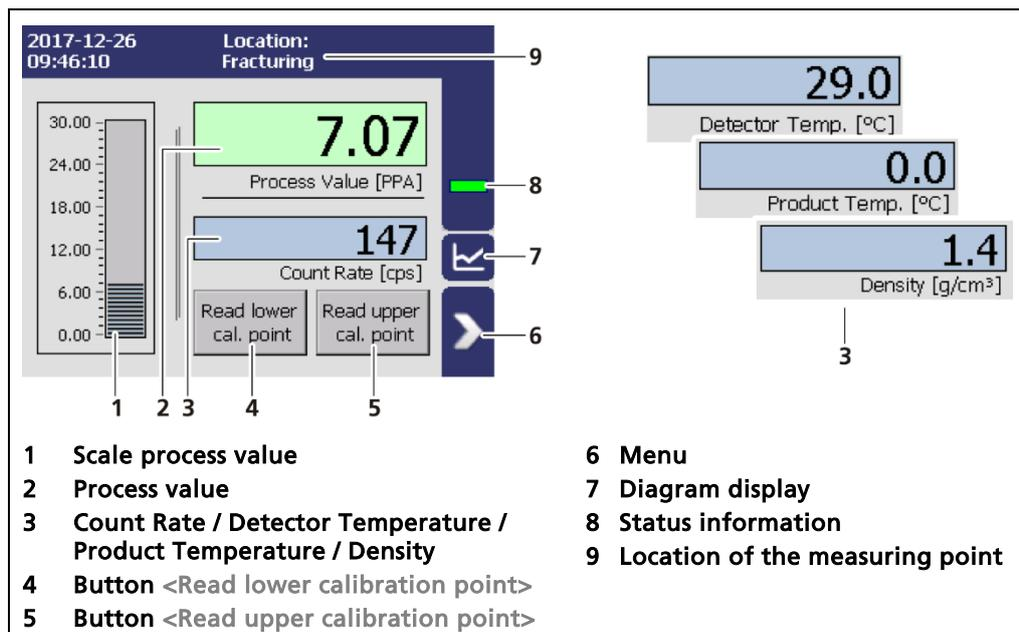
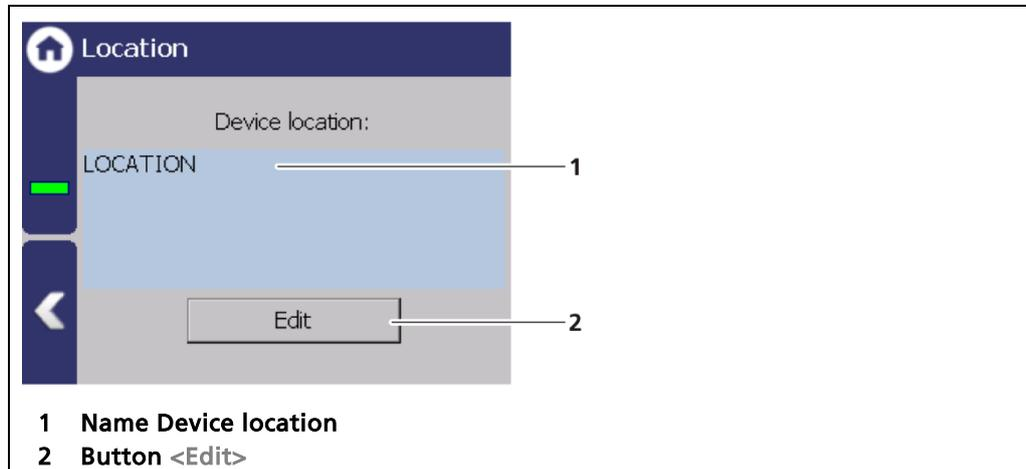

Fig. 25 Standard display of the EVU
Fig. 40 Device location
Clicking the blue box changes the display between Count Rate / Detector Temperature / Product Temperature / Density (Fig. 25, item 3). The units can be changed in Chapter 9.3.1. The Name of the measuring point (Fig. 25, item 9) can be changed in Expert Setup | Identification | Location.
Clicking the diagram symbol (Fig. 25, item 7) changes the view to the diagram display.
The measuring point of the transmitter is displayed (Fig. 40, item 1) in the "Location" menu. The name can only be edited (9.2 Menu Access) in the access level "Standard". The location is displayed on the standard display at "Measuring point" (Fig. 25, item 9).
1. Click <Edit> (Fig. 40, item 2) to open the input field.